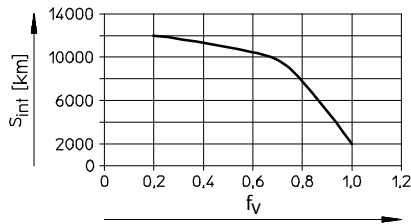

Fig. 12
- Halve the lubrication interval  $S_{int}$  (→ Fig. 12) if any of the following situations apply:
1. Calculate the load comparison factor  $f_v$  with the aid of the formula for combined loads (→ 12 Technical data) and determine the lubricating interval  $S_{int}$  from it (→ Fig. 12).
1. Calculate the load comparison factor  $f_v$  with the aid of the formula for combined loads (→ Chapter 12 “Technical data”) and determine the lubrication interval  $S_{int}$  from it (→ Fig. 12).